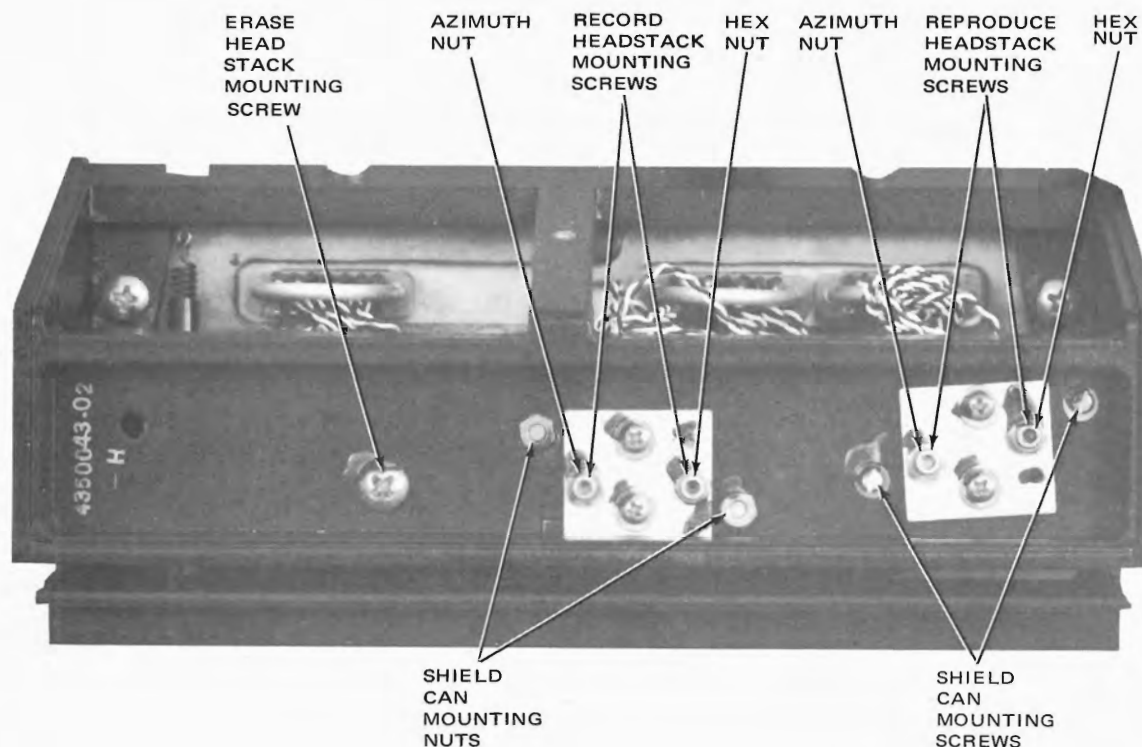

Figure 5-13. Change Head Stacks (Top View)
2. Remove the head stack shield by removing the mounting screws (reproduce head) or mounting nuts (record head) as shown in Figure 5-13.